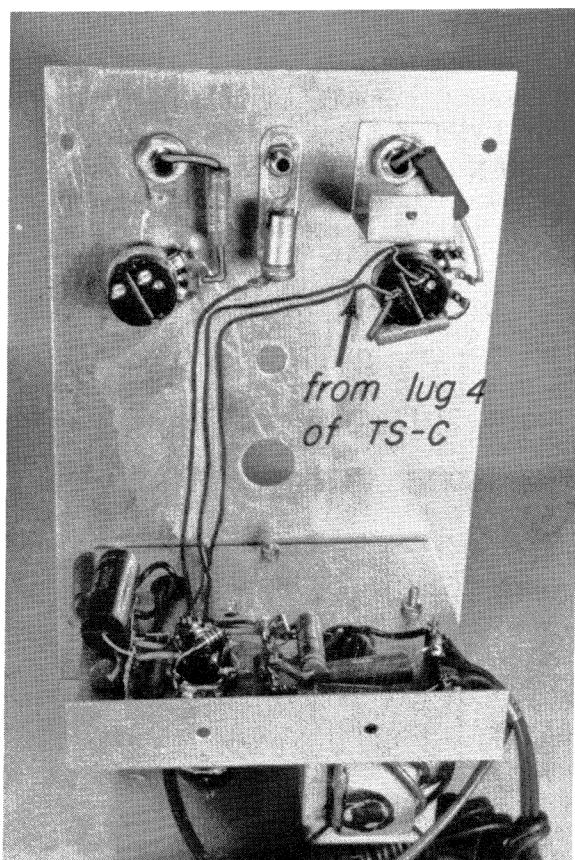

Fig. 21-13
Step 3. Remove the tape from the two 11-1/2 inch leads that connect to TS-B and TS-C. Unsolder the connection and separate the leads. Identify the lead from TS-C by bending a hook in the bare end of the wire. Run both leads to the switch section of the AF OUT/INT MOD control, as shown in Fig. 21-13. Dress the wires as shown in the figure. Connect the lead from TS-C to the same switch terminal to which the 0.01- μ f capacitor (C_4) is connected. Connect the other 11-1/2 inch lead to the other switch terminal. Solder both connections.